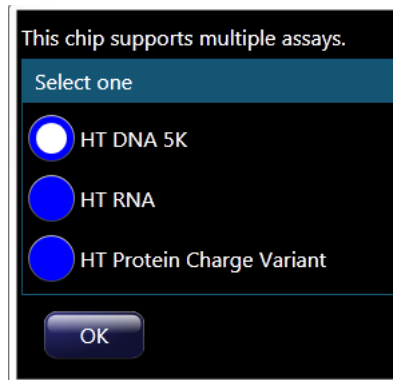

Figure 8. Assay Choice window.
- 6 The *Assay Choice* window will appear (Figure 8). Touch the desired assay and then touch *OK*.